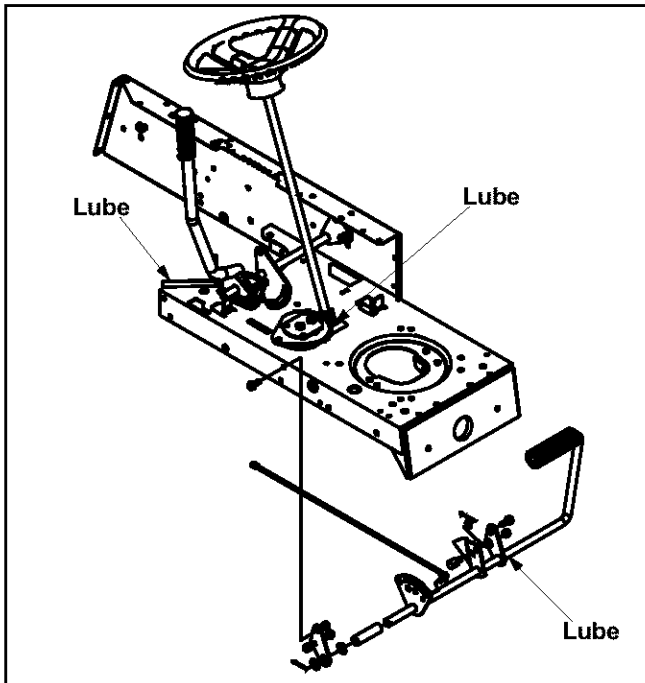

Figure 20
- Lubricate teeth of steering gears with automotive multi-purpose grease after every 25 hours of operation or once a season. See Figure 20.
- Lubricate steering shaft at least once a season with light oil. See Figure 20.